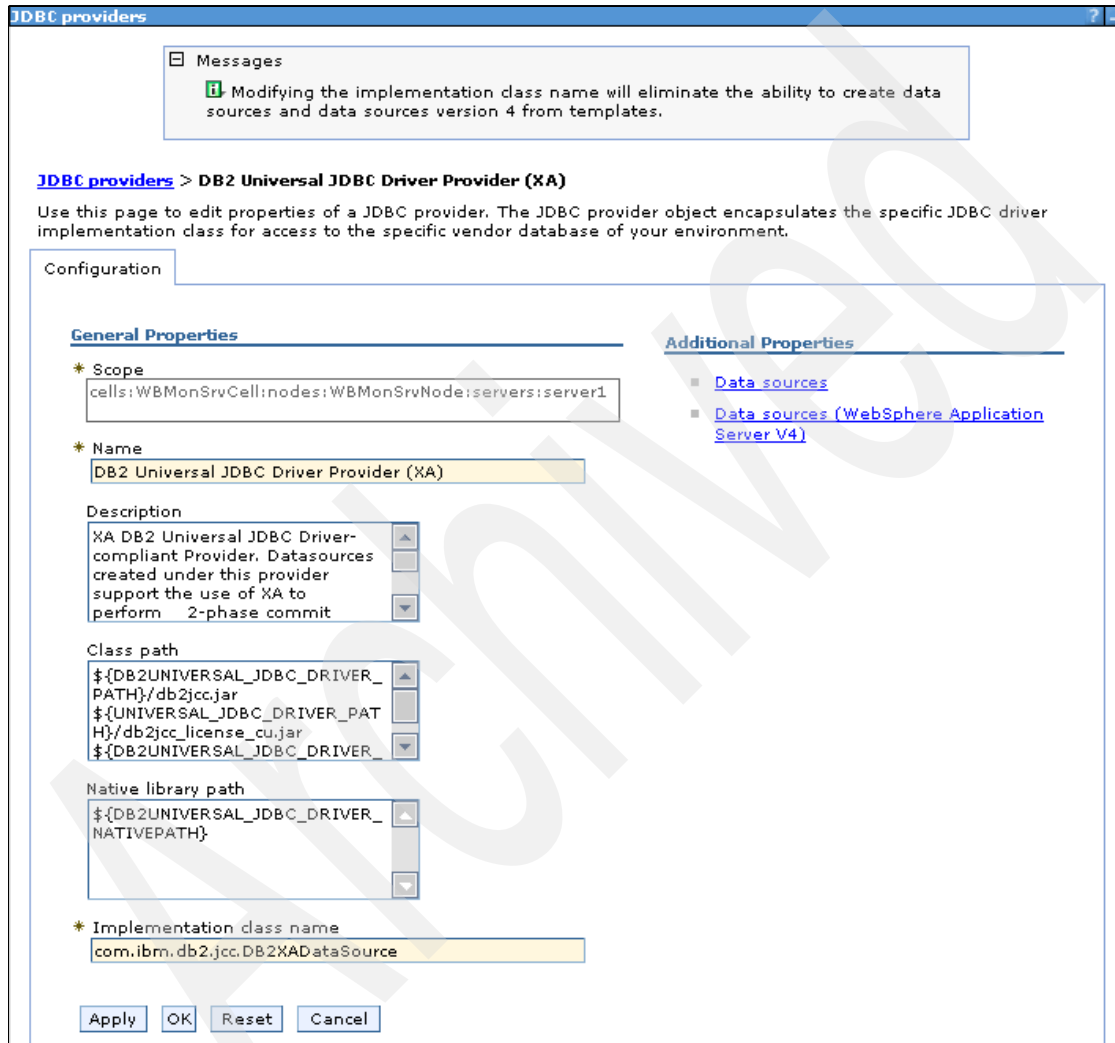

Figure 9-28 Newly created JDBC provider
1. In the JDBC providers panel (Figure 9-28), click the newly created **DB2 Universal JDBC Provider (XA)** and then click the **Data sources** link.